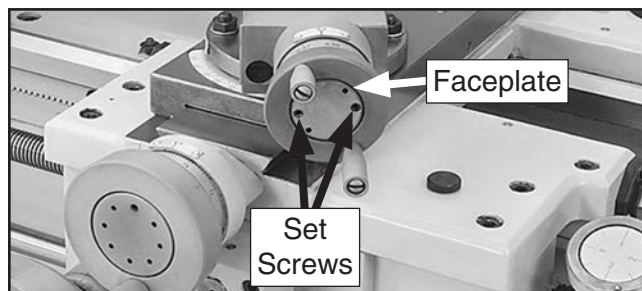

Figure 105. Compound rest backlash adjustments.
2. Loosen set screws on compound rest faceplate several turns (see **Figure 105**).